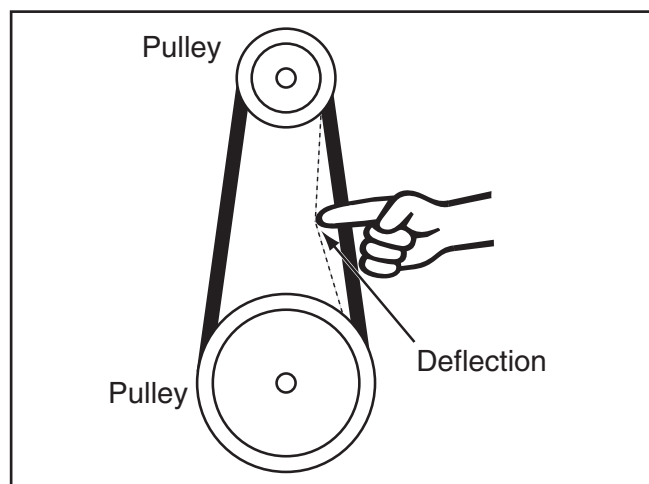

Figure 71. V-belt deflection.
4. Push the center of the V-belts. Note the amount of deflection (**Figure 71**). If deflection is more than $\frac{1}{8}$ ", tension the V-belt.